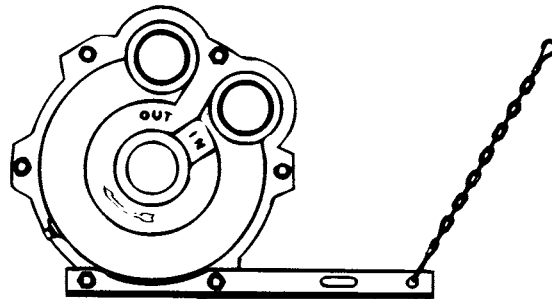

Figure 3. Torque bar and chain assembly, installed
6. To keep pump from rotating with PTO shaft, use a torque bar and chain assembly 33680 (Fig. 3). Bolt bar to pump, using two adjacent flange bolts. Snap one end of chain to the torque bar and the other end to a stationary part of the tractor. Mount the torque bar so the counter force will raise up on the pump and help relieve the side pressure due to weight of the pump and hose. Do not fasten pump rigidly to the tractor.